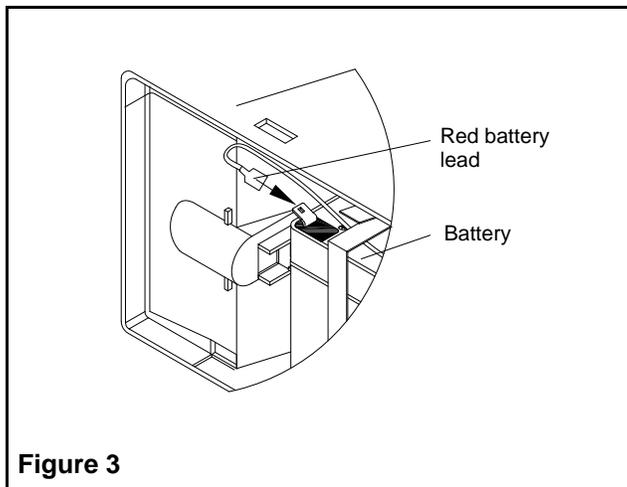

Figure 3
5. Connect the red wire to the battery positive terminal (see figure 3).